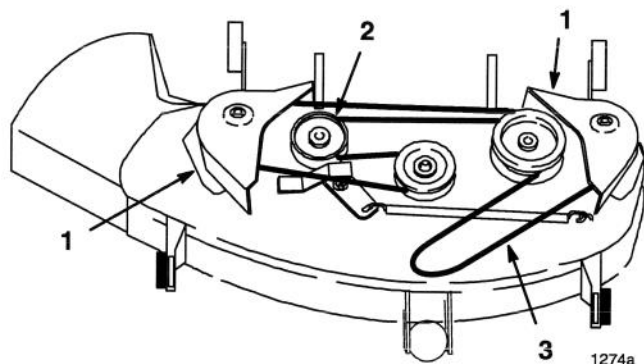

Figure 23
2. Remove the pulley cover mounting screws and pulley covers from blade pulleys (Fig. 23).
3. Remove the belt from the pulleys (Fig. 23).
2. Install the left and right pulley covers with the mounting screws (Fig. 23).